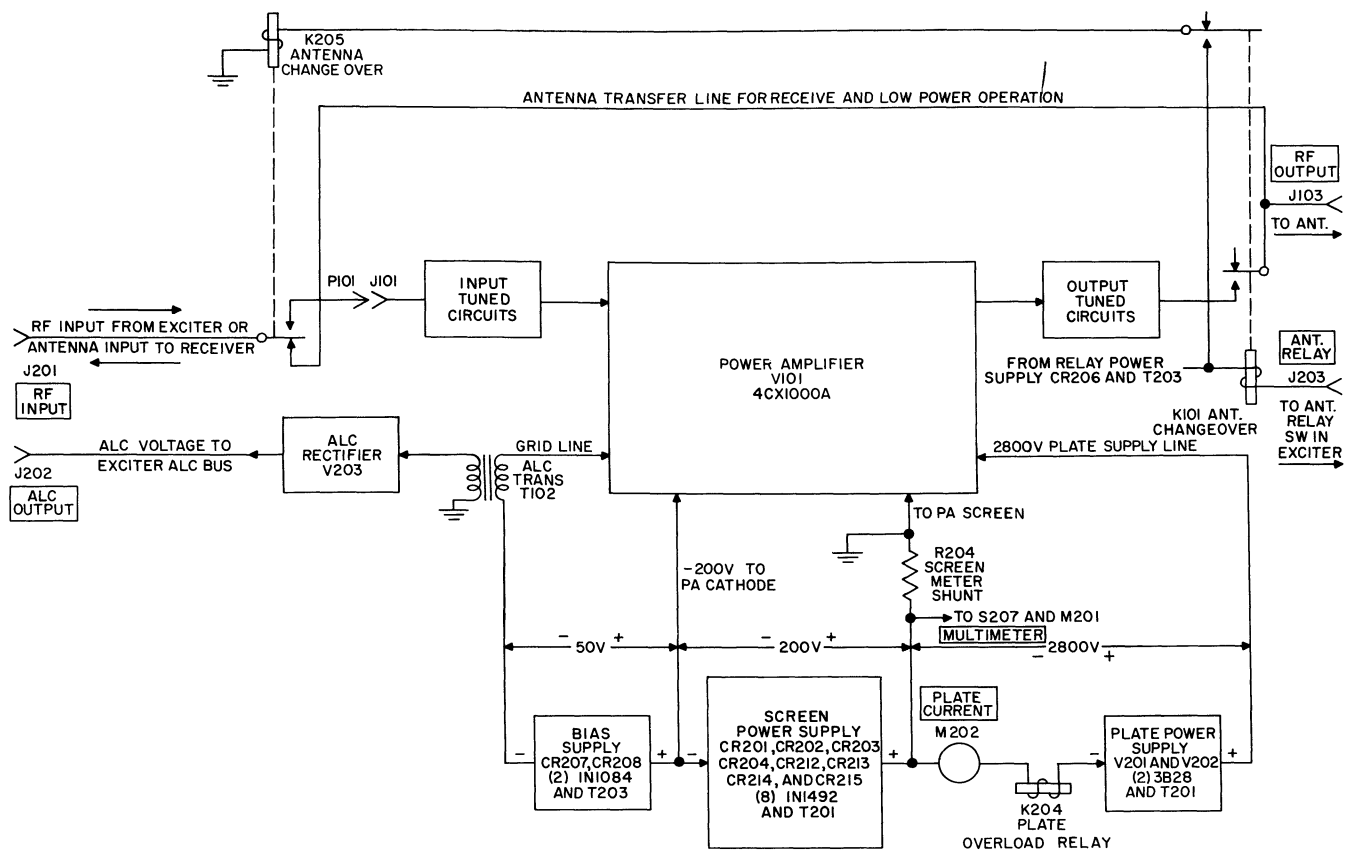

Figure 7. 30S-1, Block Diagram
Figure 7 is a block diagram of the 30S-1 R-F Linear
Refer to figures 7 and 15. Pi-network broad-tuned circuits and the interconnecting r-f feed line match the 50-ohm input impedance to the cathode impedance, which is approximately 100 ohms. The 20.5-foot length of cable (furnished) is necessary between the 32S-1 (or KWM-2) driver and the 30S-1 input circuits. This is due to the necessity of having an even multiple of 180-degree phase shifts between driver plate and power amplifier grid. The cable length and the 30S-1 input circuits together accomplish this. An even multiple of 180-degree phase shifts is necessary because modulation components cause a change in the resistive PA cathode impedance which is translated to a shift in reactive impedance at the driver plate. The shift in reactive impedance, at the driver plate, results in phase modulation of the driver and increases the total over-all distortion of the system. A 2.5-foot additional length of cable is furnished to bring the total interconnecting cable length to 23.0 feet for use with the KWM-1 as a driver. Drive power required for maximum legal input on SSB is 80 watts PEP.
4.4 POWER SUPPLY CIRCUITS. Refer to figures 7, 8, and 15.